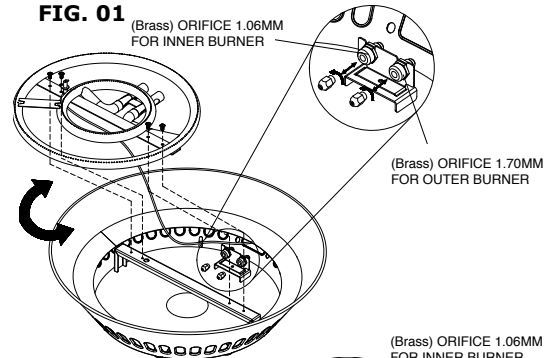

FIG. 02
- 2) Assemble as shown below (FIG. 02) Use screwdriver to remove screws holding burner to grill body by unscrewing counter-clockwise to remove the burner kit.